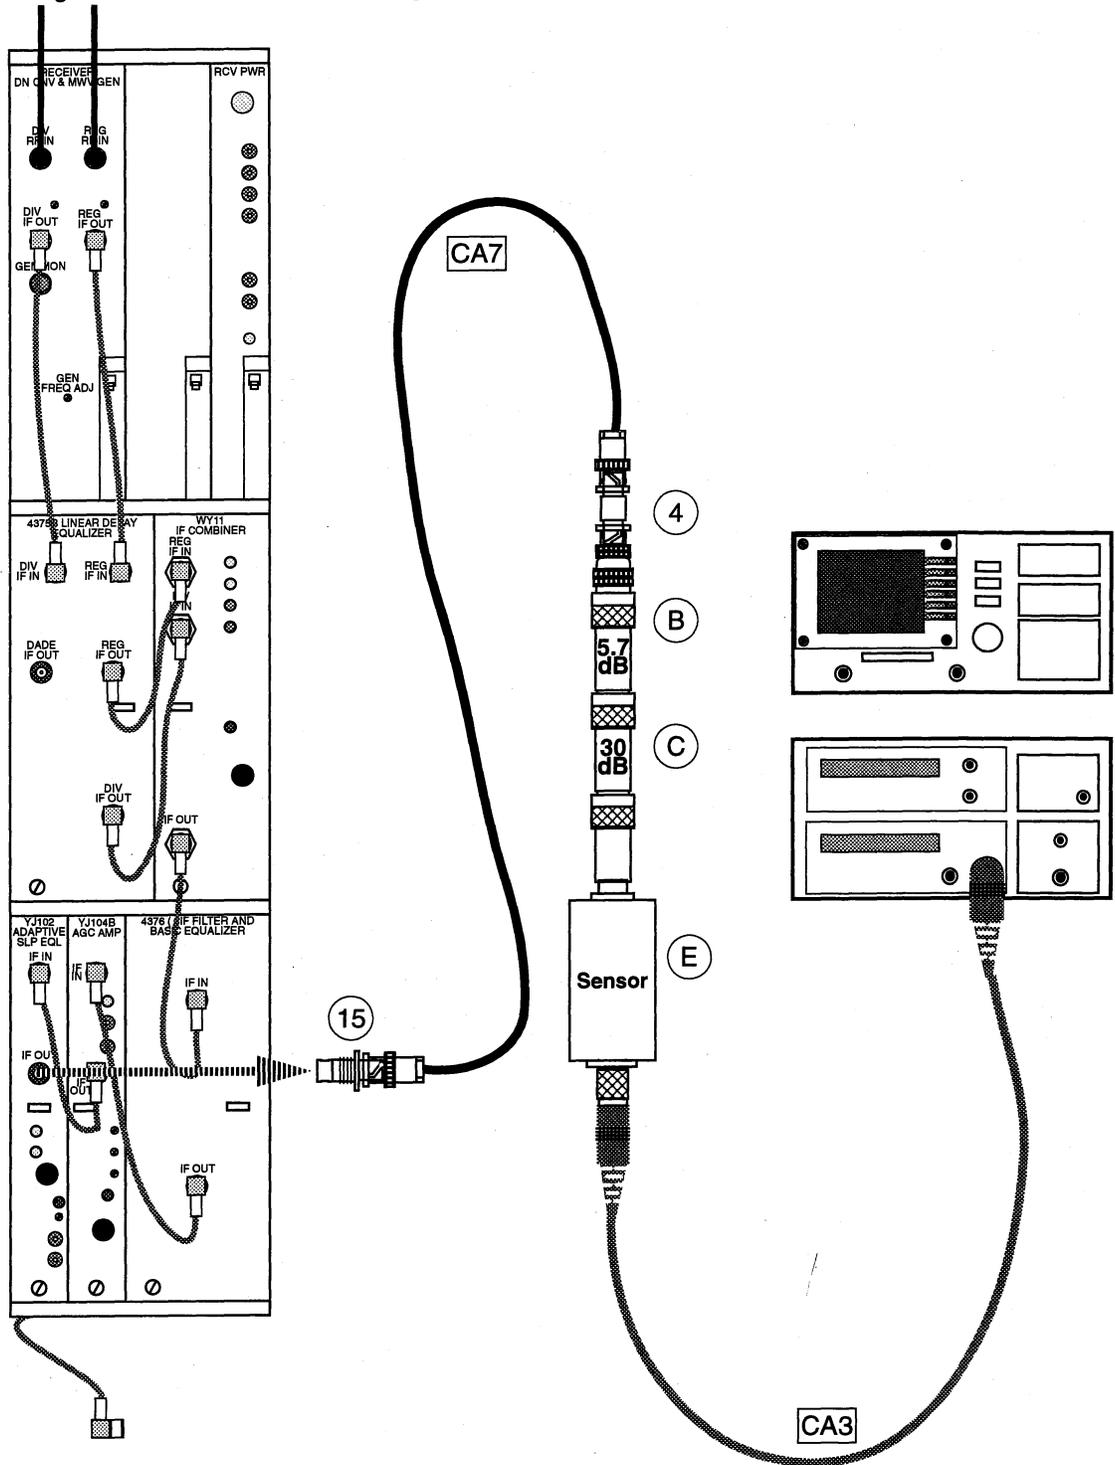

Figure 9. Equalizer IF OUT Level (ANT DIV)
- c. Connect the power meter to the IF OUT jack as shown in Figure 9.